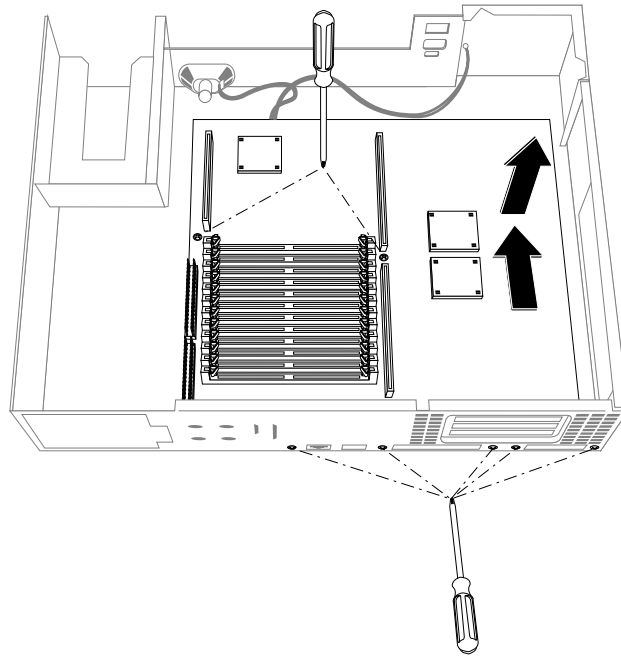

Figure 2-11 Removing the IP22 System Base Board
14. Remove the screws that fasten the IP22 base board to the system chassis. There are five screws on the back of the chassis, and two screws on the base board, as shown in Figure 2-11.